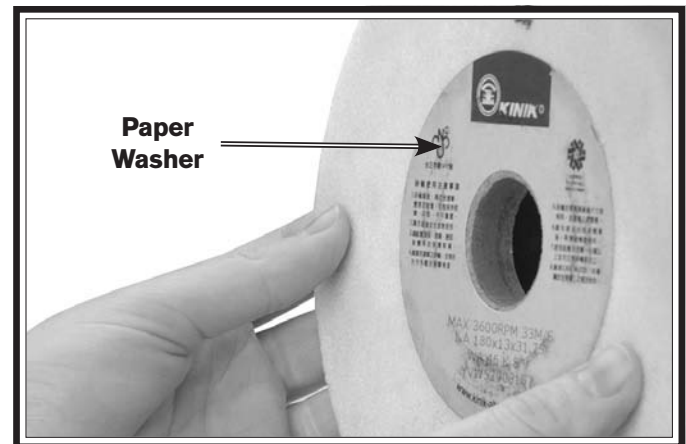

Figure 29. Important paper washer.
3. Inspect the paper washers on both sides of the grinding wheel (**Figure 29**). These washers are cushions between the spacer washer and the grinding wheel seat. Without the washers, cracks can be spawned from the center of the wheel when the spanner nut is tightened. Over time, these cracks can radiate outward and the wheel may explode during operation, possibly causing injury.